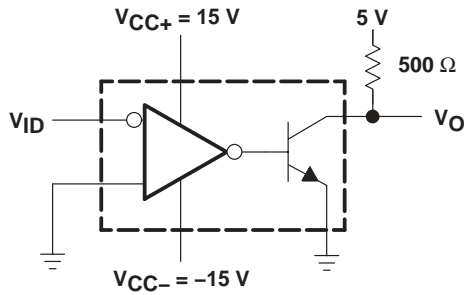

**Figure 4**
**TEST CIRCUIT FOR FIGURES 4 AND 5**